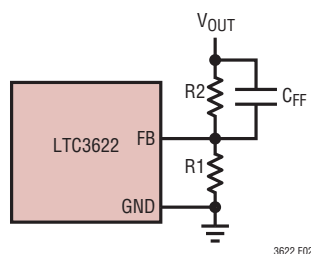

Figure 2. Setting the Output Voltage
**FB2 (Pin 10/Pin 11):** Feedback Input to the Error Amplifier of Channel 2 Step-Down Regulator. Connect resistor divider tap to this pin. The output voltage can be adjusted from 0.6V to VIN by:  $V_{OUT} = 0.6V \cdot [1 + (R2/R1)]$ . (Figure 2) For fixed VOUT options, connect the FB pin directly to VOUT.
**FB1 (Pin 12/Pin 13):** Feedback Input to the Error Amplifier of Channel 1 Step-Down Regulator. Connect resistor divider tap to this pin. The output voltage can be adjusted from 0.6V to VIN by:  $V_{OUT} = 0.6V \cdot [1 + (R2/R1)]$ . (Figure 2) For fixed VOUT options, connect the FB pin directly to VOUT.
The resistive divider allows the FB pin to sense a fraction of the output voltage as shown in Figure 2.
The initial output voltage step may not be within the bandwidth of the feedback loop, so the standard second order overshoot/DC ratio cannot be used to determine phase margin. In addition, a feedforward capacitor can be added to improve the high frequency response, shown in Figure 2. Capacitor  $C_{FF}$  provides phase lead by creating a high frequency zero with  $R2$ , which improves the phase margin.